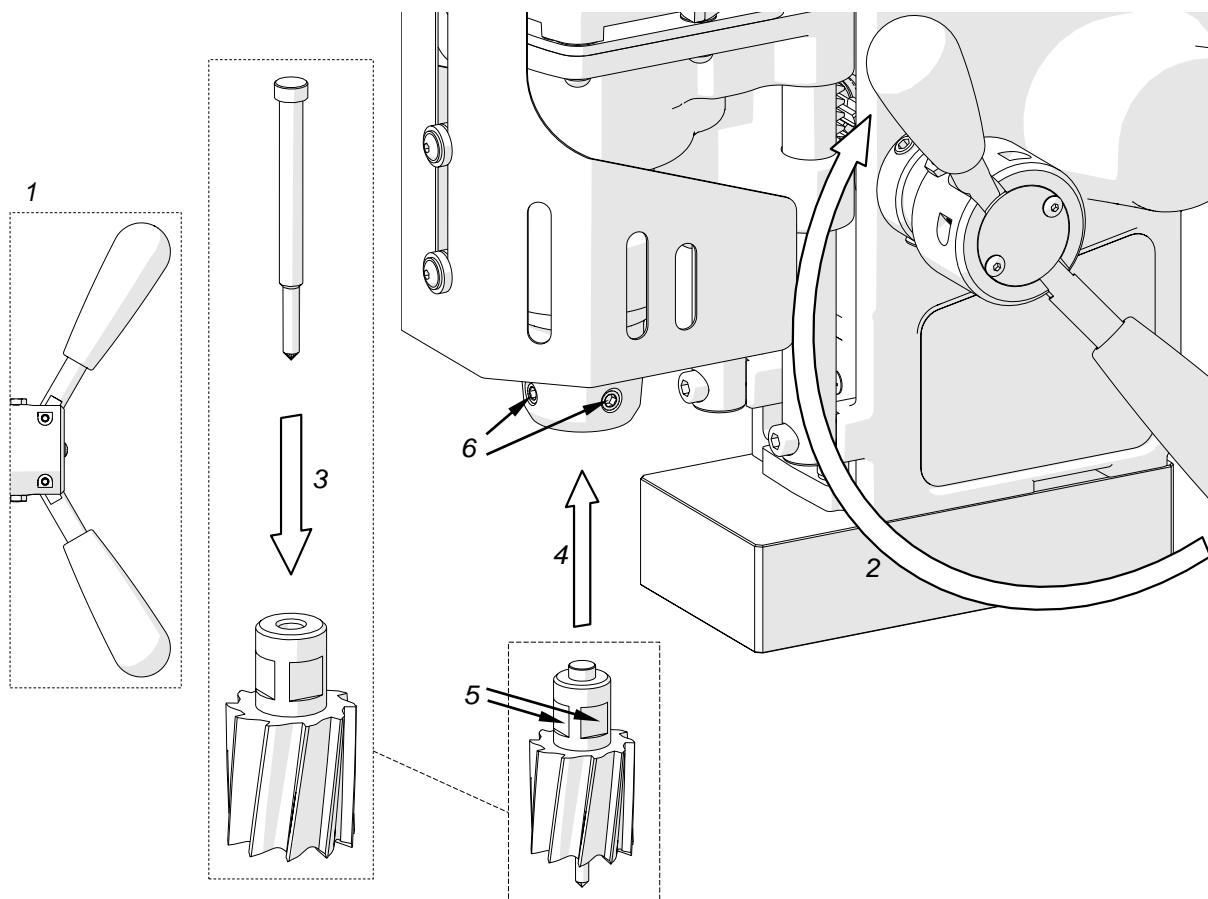

Fig. 2. Installing the annular cutter
Unplug the machine from the power source, and then set both spoke handles to the position 1 (Fig. 2) and rotate them to the right (2), to raise the motor. Insert the proper pilot pin into the annular cutter (3), and then wear protective gloves and place the cutter into the arbor (4) in such a way to align the flats 5 with the set screws 6. Finally, tighten both set screws with the 4 mm hex wrench. To remove the cutter, proceed in reverse order.